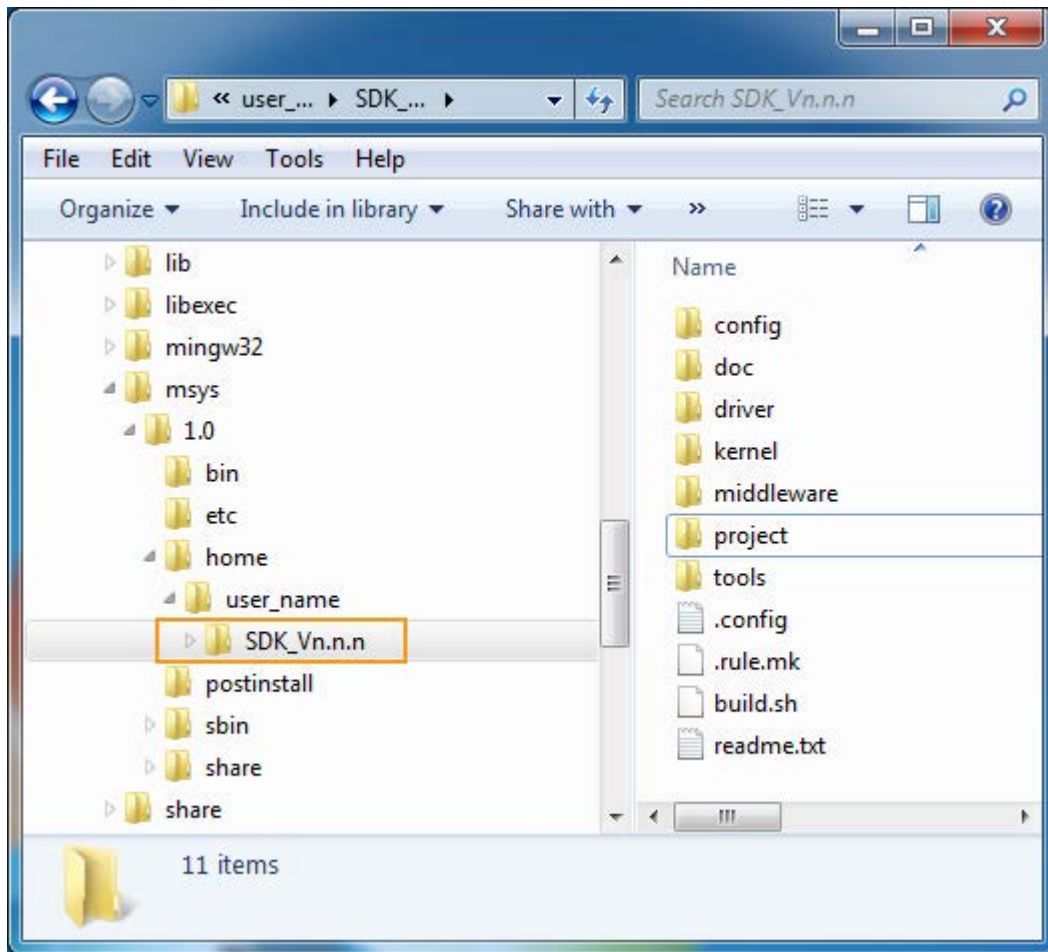

Figure 8. MinGW folder structure
- 10) Copy the SDK to MinGW `home/<user_name>` folder, as shown in Figure 8.